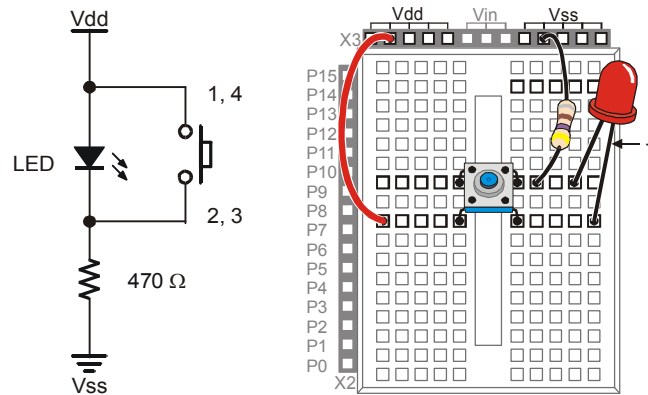

Figure 3-5
Figure 3-5 shows a different circuit that will cause the LED to behave differently. When the button is not pressed, the LED stays on. When the button is pressed, the LED turns off. The reason the LED turns off when the pushbutton is pressed is because current always follows the path of least resistance. When the pushbutton is pressed, terminals 1,4 and 2,3, have almost no resistance between them, so all the current passes through the pushbutton (short circuit) instead of the LED.
- ✓ Build the circuit shown in Figure 3-5.